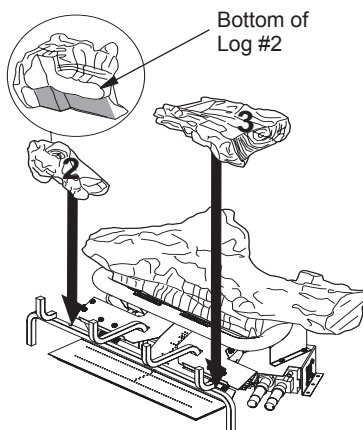

Figure 22 - Installing Logs #2 and #3
- Place left bottom log (#2) onto base assembly as shown in Figure 22. See detail in drawing for contour on bottom of log. Log will fit over metal brackets and flat onto base assembly.
- Place right bottom log (#3) onto pan burner as shown in Figure 22.